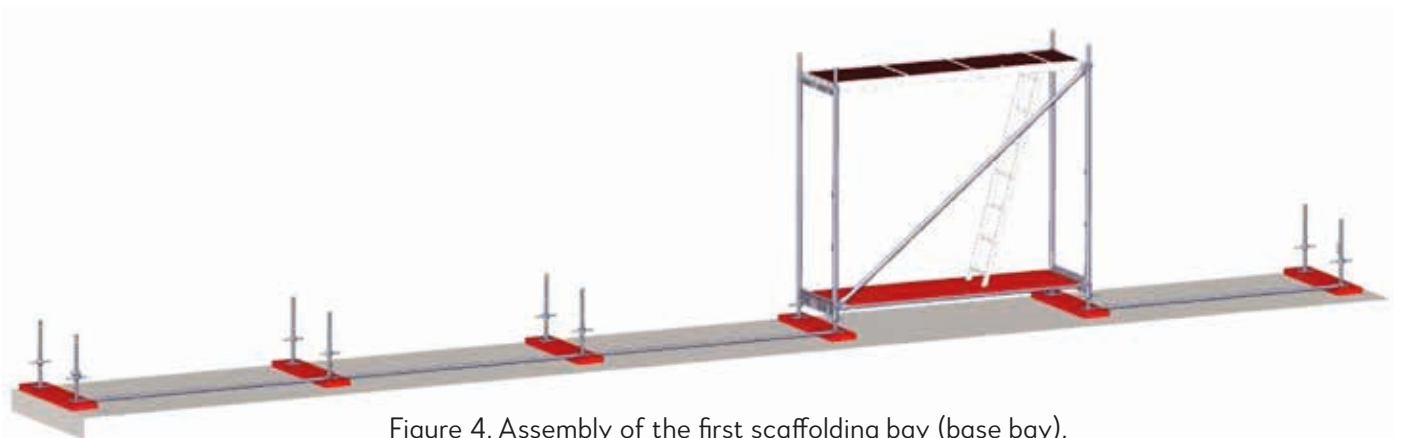

Figure 4. Assembly of the first scaffolding bay (base bay).
- In the place where the stairways will begin, put the base transoms on the steel screw jacks, and then the deck(s) on them. The deck will constitute the support for the entrance ladder leading to the first floor (Fig. 4).
- After laying the sole boards and placing the adjustable screw jacks on them, slide the starting ledgers or the bottom brace mount over them, place the guardrail on the latched pins of the ledgers or the lower bracing brackets; the guardrail will serve as a longitudinal transom. Then attach one vertical frame to the mandrels of the screw jacks and install the diagonal brace (Fig. 4).
- Then put on the second frame and install the access deck. Only steel, wooden, aluminium or aluminium-plywood system decks should be used for installation. Two 0.32 m wide decks or one 0.64 m wide deck must be installed in each bay. Level the assembled bay and plumb it up. The bay assembled in this way is the base bay from which the assembly of subsequent bays of the first floor can be started (Fig. 4).